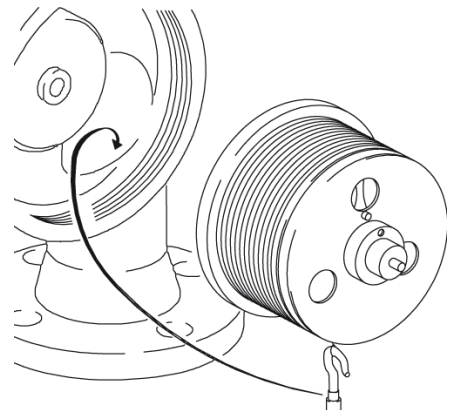

Figure 3.2 Installing drum shaft
- Attach the smallest of the four test weights (or another small weight) to the measuring wire, remove the rubber band securing the measuring wire and feed the wire and test weight through the neck of the gauge (see figure 3.2).